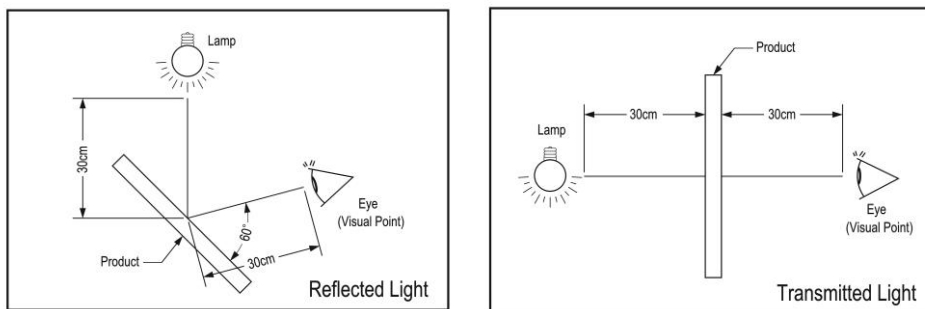

Figure 11-1
(2)The inspection was performed with one 17W fluorescent lamp lighting from back or side. The panel was placed 30cm away from eyes. (Figure 11-1)
[檢測始用之燈光為 17W 白熾燈光，詳細的擺設方式，請參考圖(Fig11-1)]